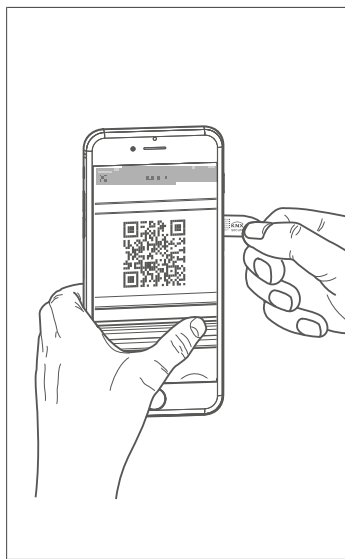
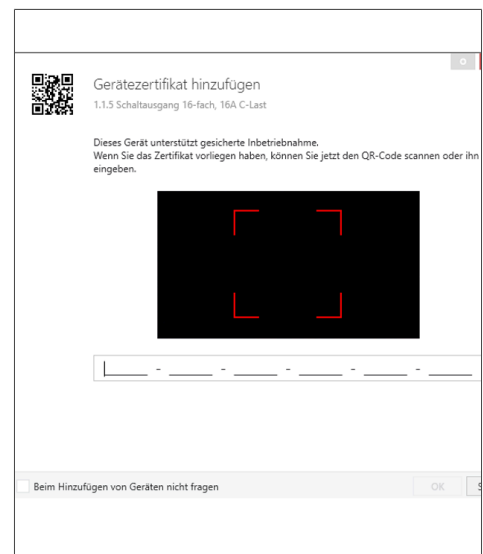

Fig. 7: Scanning the QR code
Fig. 8: Entering the QR code manually
- 2 Enter the device certificate (QR code) (Fig. 8), scan it (Fig. 7) or add it to the project in ETS.